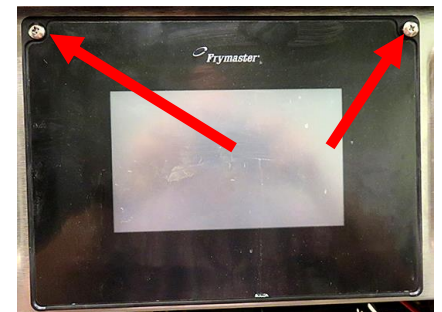

Figure 92
90. Reattach the controller to the bezel using the two (2) screws (see Figure 92).